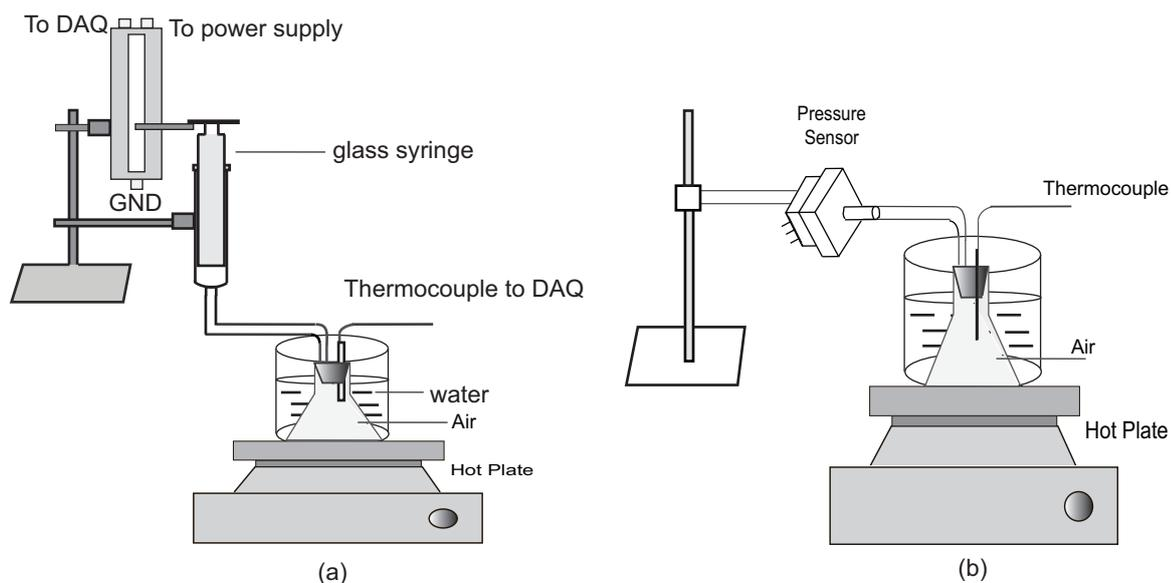

Figure 8: (a) Experimental scheme for the verification of Charles's law. (b) Setup to see the behavior of pressure versus temperature when the volume is fixed.
**Q 10.** Connect a 10 mL glass syringe to a 37 or 50 mL flask with the help of plastic tubing as shown in Figure 8 (a). Make sure there is no droplet of water inside the flask. This may produce extra pressure due to the evaporation of the water molecule and not due to the expansion of air. Guided by the figure, complete the assembly.
**Q 18.** Connect a 37 mL flask using plastic tubing directly to the pressure sensor as shown in Figure 8 (b). Prefer using the smaller volume flask to have sufficient expansion of the syringe. Make the connections tight using silicone or teflon tape to avoid any leakage.